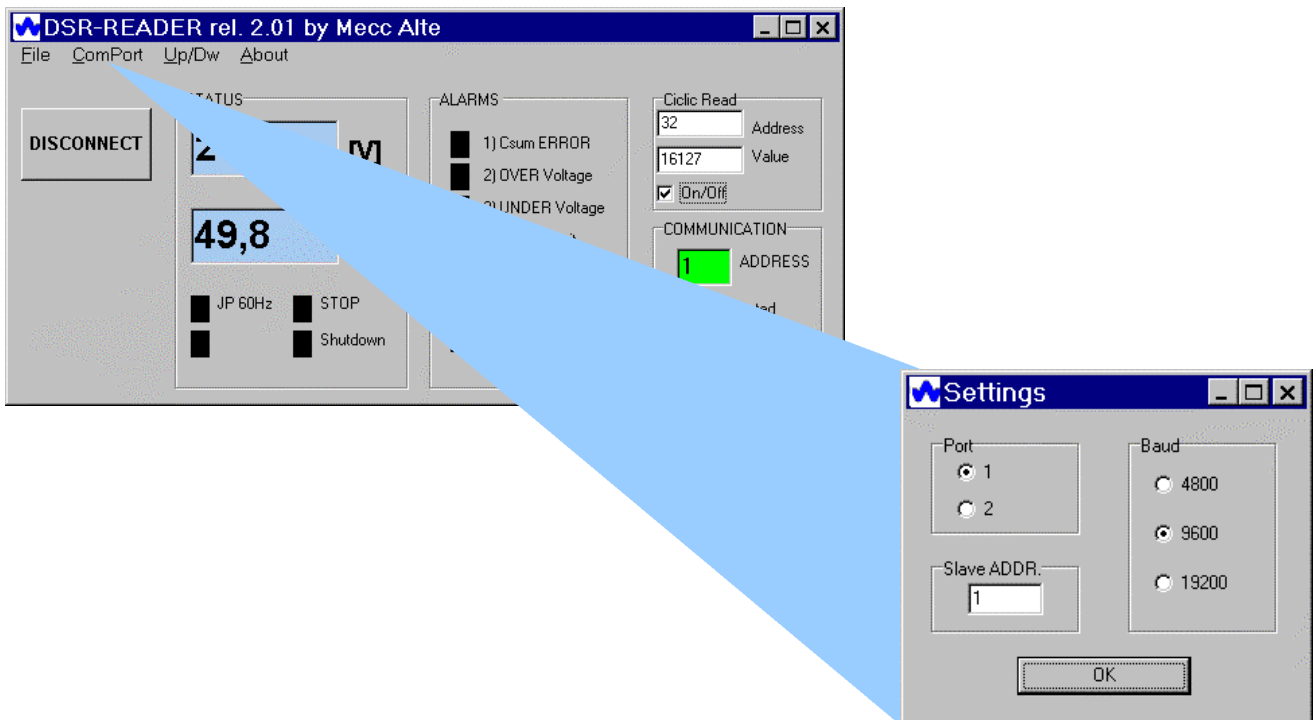

Fig. 17: DSR_Reader user interface and Settings menu
2. **Settings** opens a window (as shown in figure 17), through which several parameters, concerning communications, can be set: